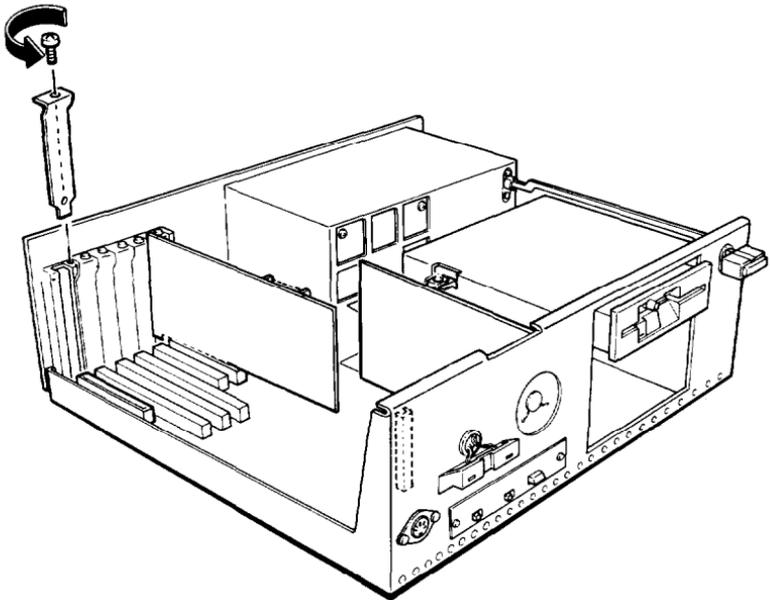

Figure 4-6. Removing an option slot cover
1. Decide which option slot you want to use. If the card has an external connector (such as a monitor card), you need to remove the option slot cover at the back of that slot. See Figure 4-6. Remove the retaining screw from the top of the metal option slot cover and keep it to secure the option card to the computer. Lift out the slot cover and keep it in a safe place in case you remove the option card later.